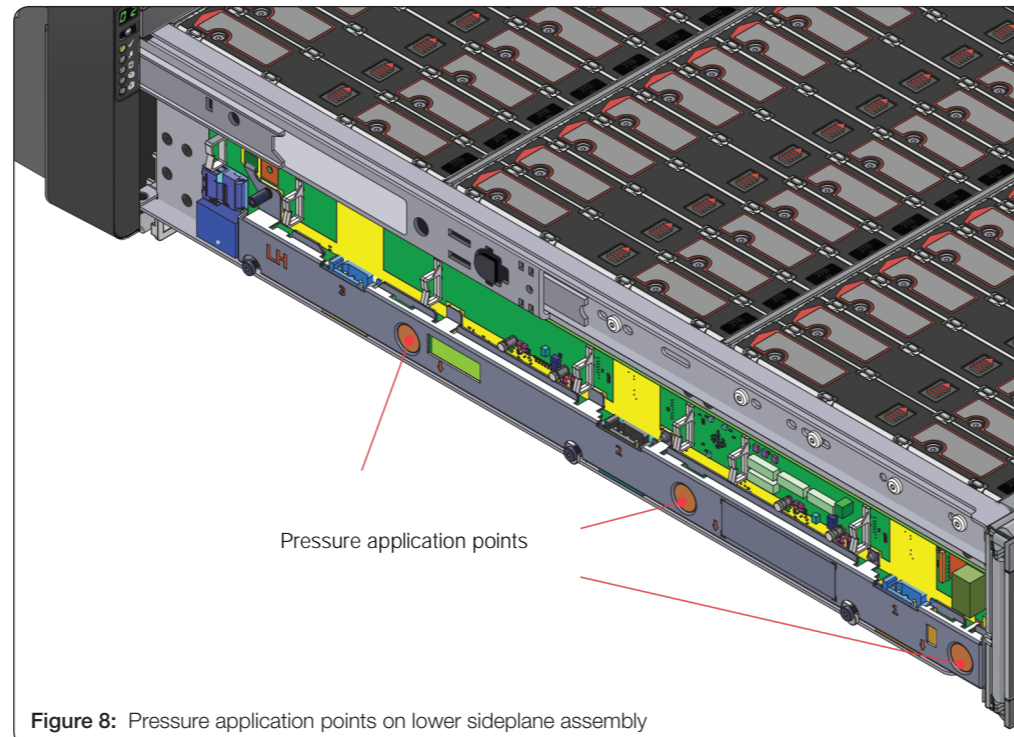

Figure 8: Pressure application points on lower sideplane assembly
1. Locate the sideplane assembly in position over the related half connectors and then steadily and gently apply pressure on the pressure application points until all connectors fully mate (Figure 8).